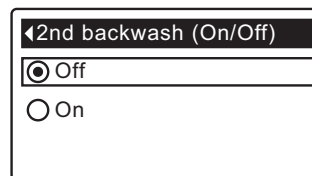

FIG. 68
- 8b. **Second backwash (On/Off):** If the desired option already has a black dot next to it (See Figure 68), go to Step 9. Otherwise, press the DOWN ▼ or UP ▲ buttons to scroll to the other option, then press OK/MENU to choose it. Setting this feature On adds a second backwash and rinse at the beginning of the recharge cycle. Default is Off. Set this feature On if your water supply contains a lot of sediment or iron.